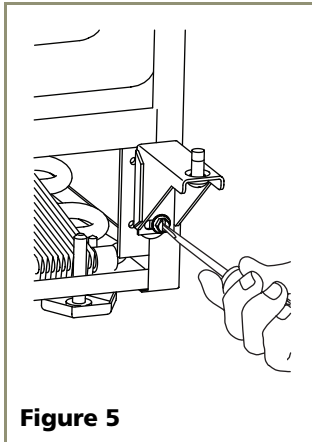
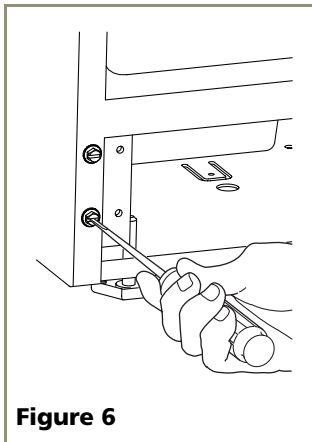

Figure 5
Figure 6
3. Remove bottom hinge from cabinet (two screws). See **Figure 5**. Remove screws on opposite side of cabinet (**Figure 6**). Note that there may be a nut behind one or both screws on either side.
4. Remove bottom hinge bracket from cabinet (two screws). See **Figure 5**. Remove screws on opposite side of cabinet (**Figure 6**). Note that there may be a nut behind one or both screws on either side.